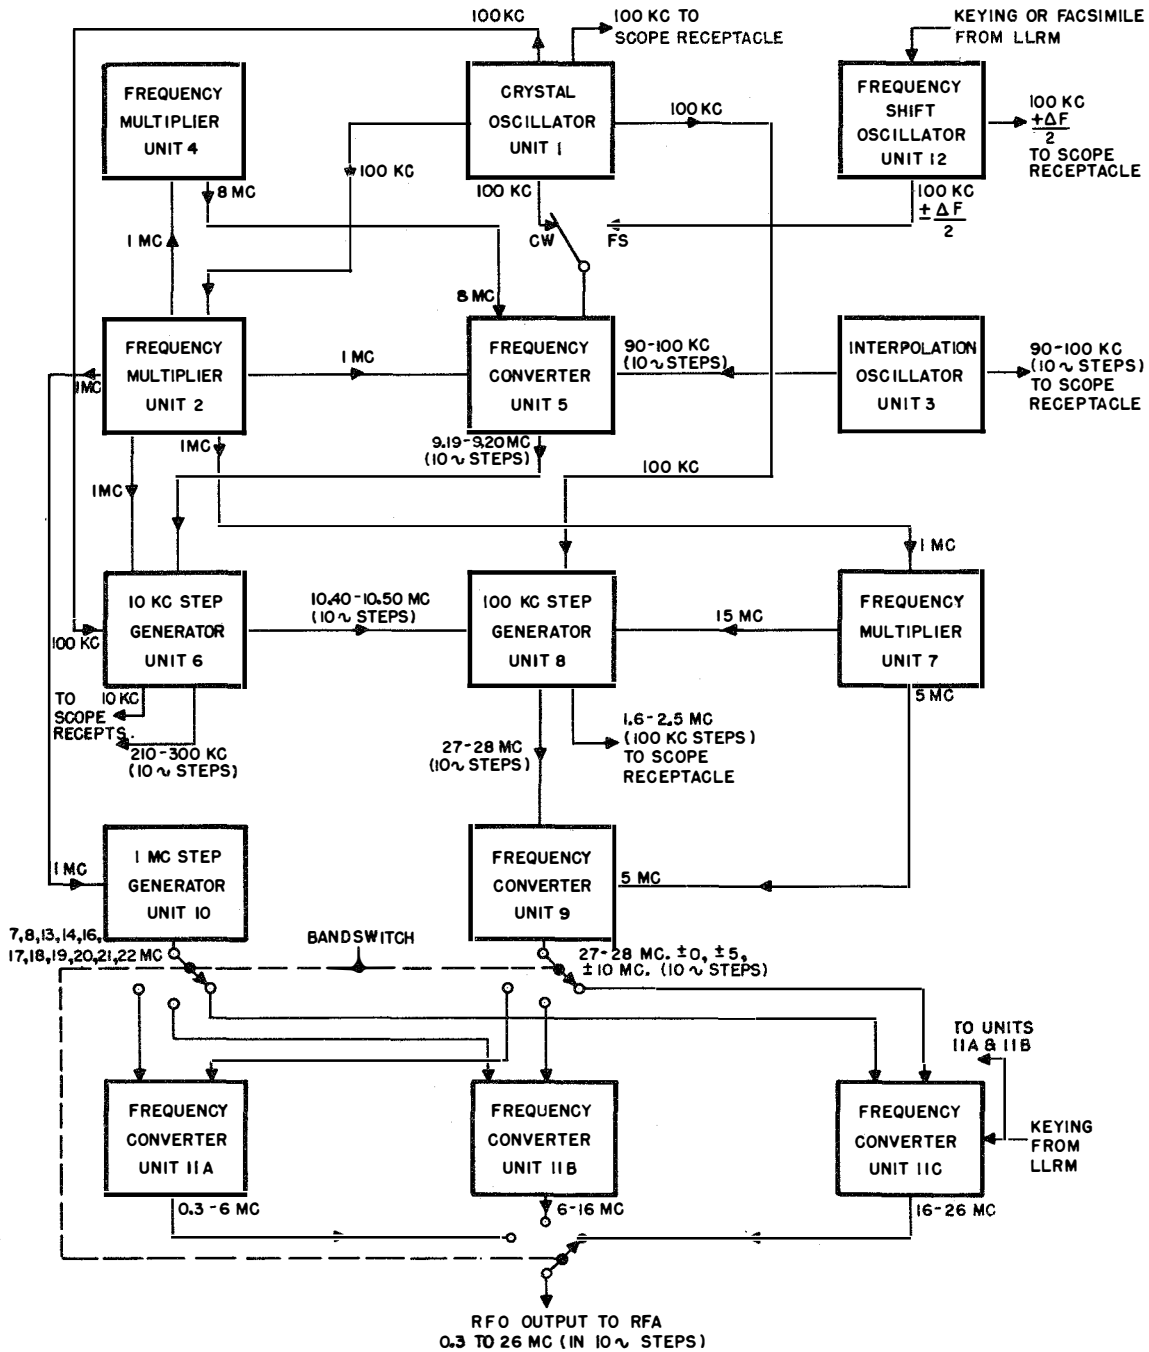

Figure 2-2. Radio Frequency Oscillator O-275/SRT (Radio Frequency Oscillator, RFO), Functional Block Diagram
a. GENERAL THEORY OF THE RFO. (See figure 2-2.)—The crystal oscillator (unit 1) produces a 100-kc output, accurate to within 1.5 parts per million, which is fed to: one of the frequency multipliers (unit 2), a frequency converter (unit 5), the 10-kc step generator (unit 6), and the 100-kc step generator (unit 8). This output synchronizes the step generators and, through frequency multipliers, provides the higher input frequencies required by other units of the RFO. Another portion of the 100-kc output is fed to the zero adjust indicating circuit in unit 14 to enable the operator to check the output of the interpolation and frequency-shift oscillators. Another portion is fed to an oscilloscope test receptacle in unit 14 for servicing and checking.
(1) In unit 2 (frequency multiplier) the 100-kc output of the crystal oscillator is increased to 1 mc and then fed to unit 4 (frequency multiplier), unit 5 (frequency converter), unit 6 (the 10-kc step generator), unit 7 (frequency multiplier), and unit 10 (the 1-mc step generator). Unit 4 multiplies the 1-mc input from unit 2 and produces an 8-mc output, which is fed to unit 5 (frequency converter).